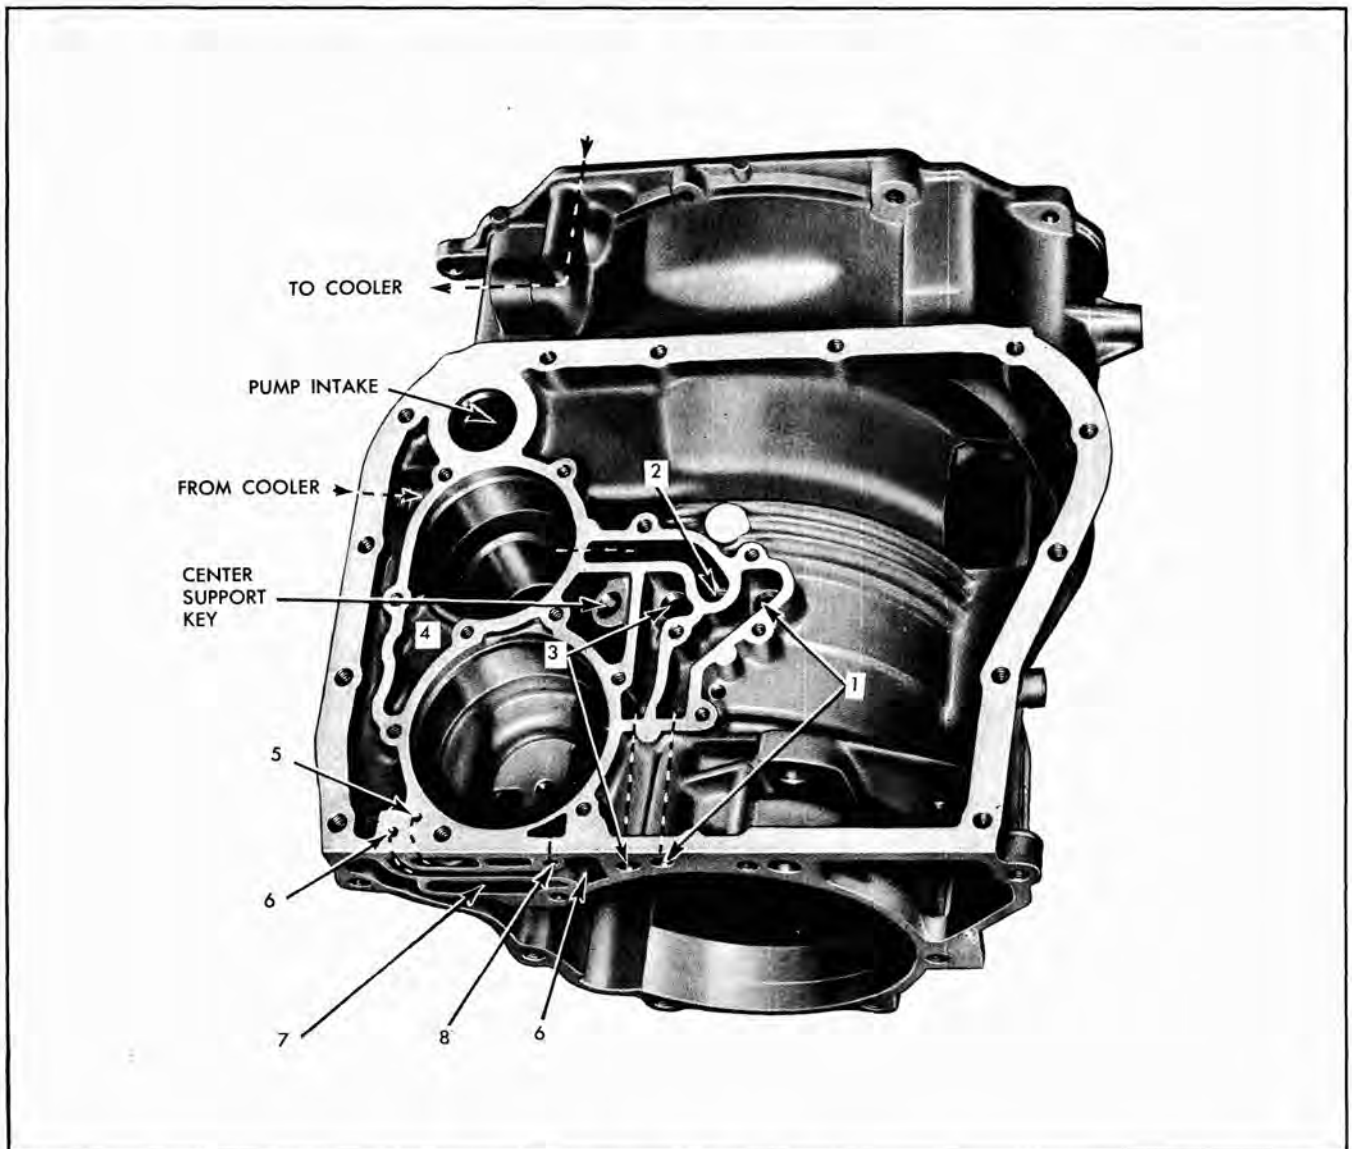

Fig. 66 Case Passages
2. Inspect case for leaks or inter-connected passages by using air gun or smoke (Fig. 66).